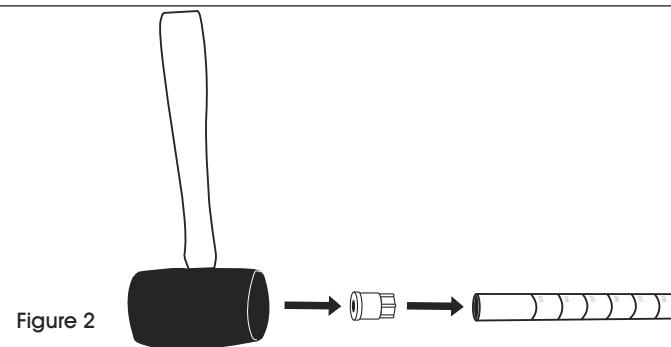

Figure 2
2. Make sure post is positioned as shown. (See Figure 2)
3. Use a rubber mallet to tap post inserts into posts. (See Figure 2)